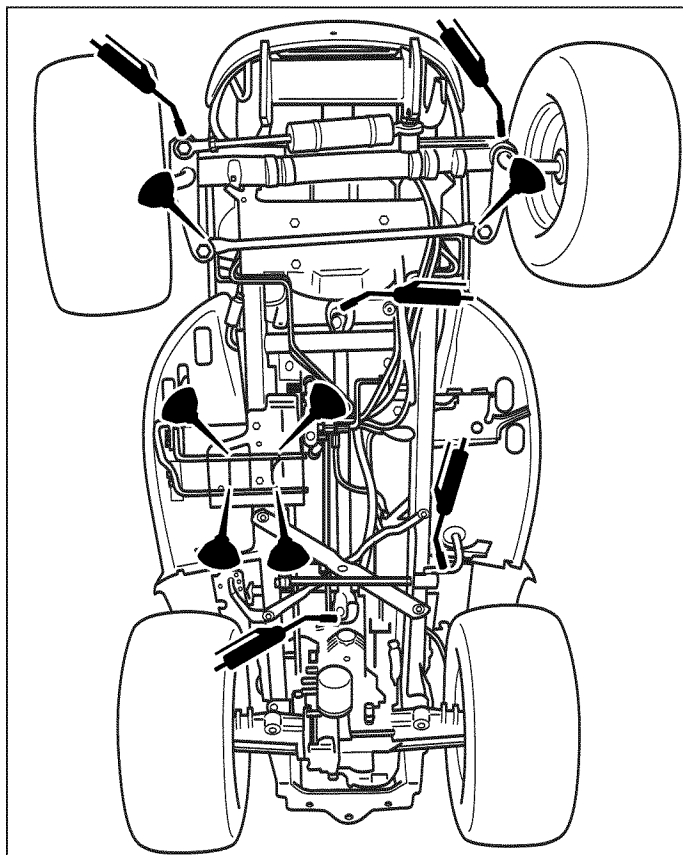

Figure 31. Lubricating the Tractor
2. Remove the side level plug (B, Figure 31) of the gear box. Oil should come out of the side hole. If not add SAE 85W-90 oil through the top fill hole (A) until oil comes out the side fill hole.